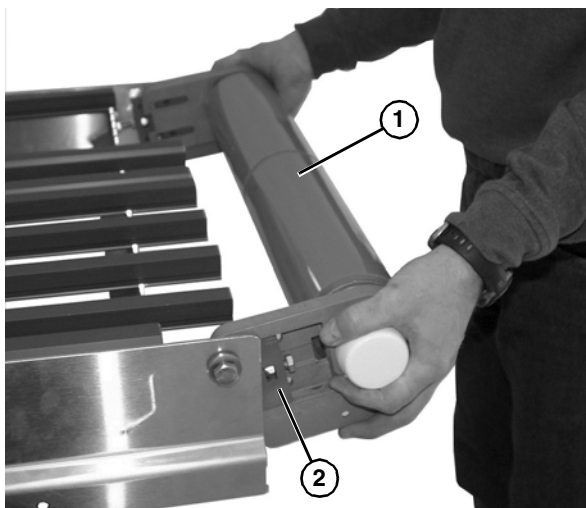

Figure 44
- Slide the idler spindle assembly (Figure 44, item 1) off the pivot tail blocks (Figure 44, item 2).